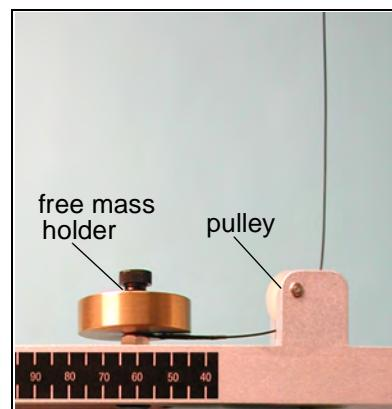

Figure 5b: Threading the cable through the free mass holder
9. Thread the cable from the swivel hook through the pulley and over the free mass holder (Figure 5b).